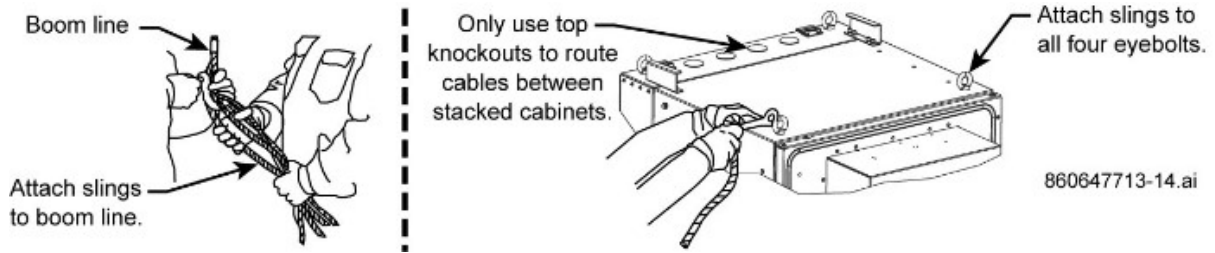

Figure 20. Attach Slings to the Boom Line and Cabinet Eyebolts
1. Remove cabinet rear panel and use all four eyebolts to lift the cabinet, Figure 20
- Attach four slings of sufficient length for safe operation to boom line with a B connecting link or clevis and fasten other ends of slings to each eyebolt with a B connecting link or clevis, Figure 20.